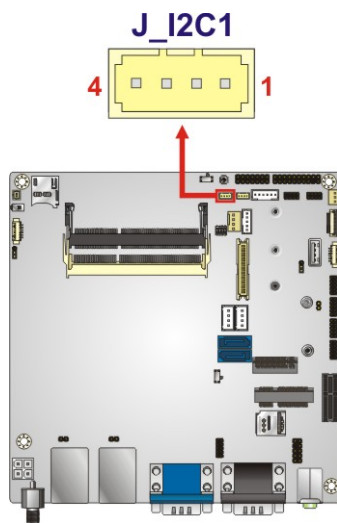

Figure 3-10: I2C Connector Pinout Locations
- CN Location:** See **Figure 3-10**